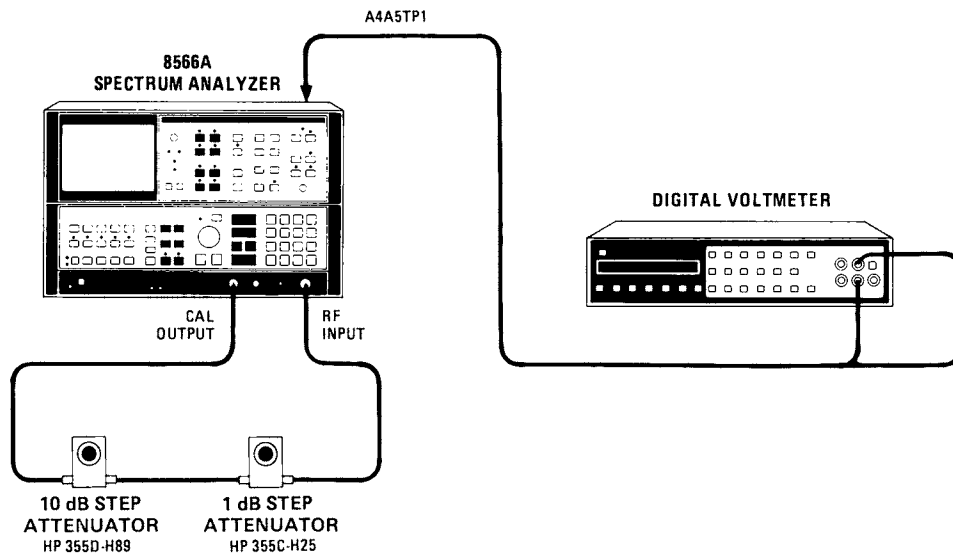

Figure 5-26. 21.4 MHz Bandwidth Filter Adjustments Setup
1. Position instrument upright as shown in Figure 5-26 and remove top cover.